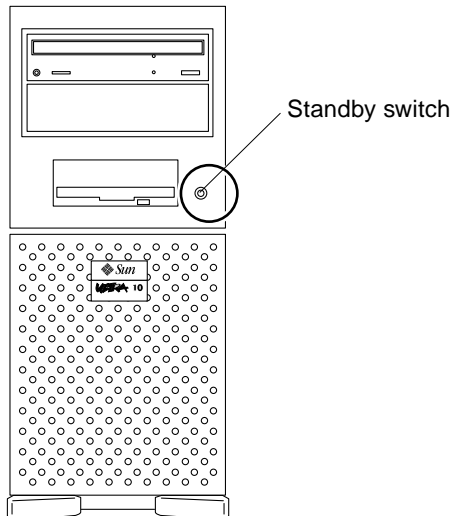
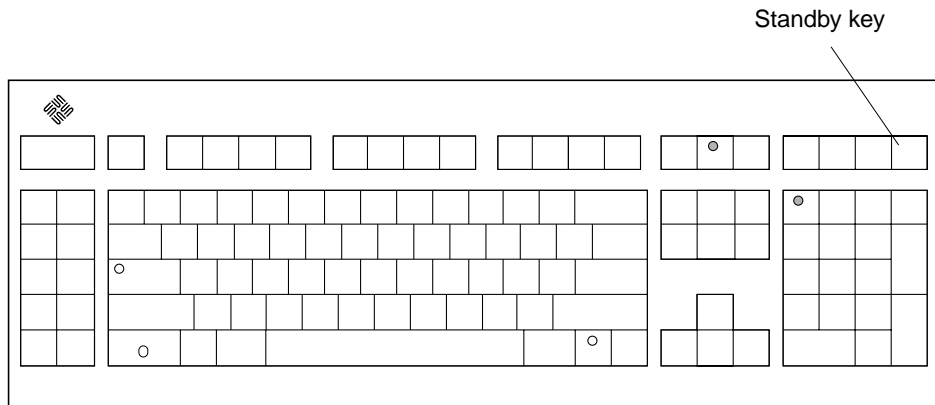
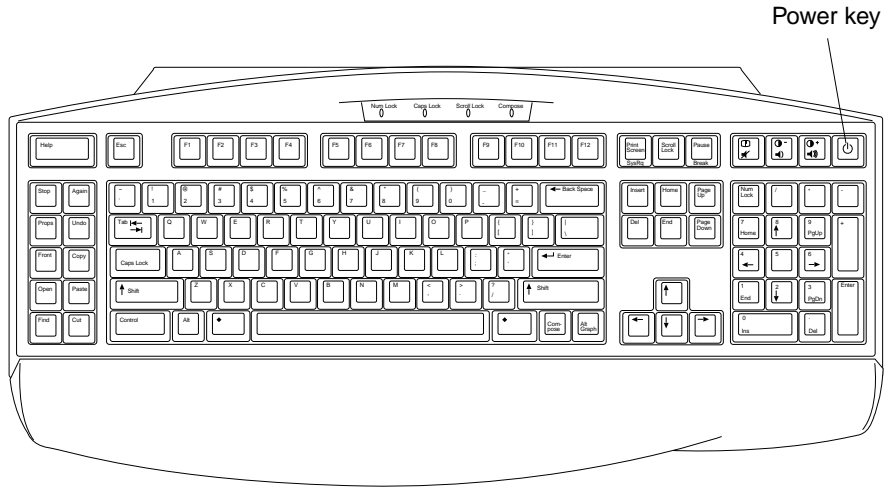

FIGURE 10-3 System Standby Switch
FIGURE 10-4 Sun Type-5 Keyboard
FIGURE 10-5 Sun I/O Type-6 Keyboard
5. **Press the standby switch (FIGURE 10-3), or press the Sun Type-5 keyboard Standby key (FIGURE 10-4) or the Sun I/O Type-6 keyboard Power key (FIGURE 10-5).**